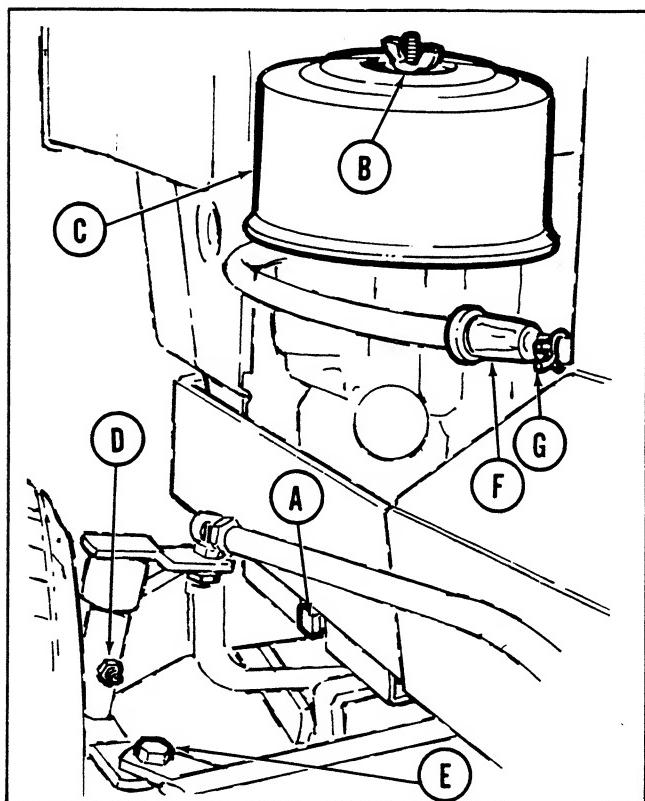

Figure 20. Left front of tractor.
2. See figure 20. Remove the drain plug (A) from the bottom of the engine base and allow the oil to drain.
1. See figure 20. Remove the wing nut (B) and cover (C) from the air cleaner unit.
5. See figure 20. Replace the air cleaner cover (C) and fasten it securely with wing nut (B).
Left Spindle	Figure 20, Item D
Left Tie Rod End	Figure 20, Item E
1. See figure 20. Remove wing nut (B) and cover (C) from the air cleaner.
7. See figure 20. Replace cover (C) and wing nut (B) and tighten securely.
REPLACE FUEL FILTER: See figure 20. Every 100 hours or more often under dirty field conditions, the fuel filter (F) should be replaced. **CAUTION: DO NOT REMOVE THE FUEL FILTER WHEN THE ENGINE IS HOT, AS SPILLED GASOLINE MAY IGNITE. USE CARE WHEN REMOVING AND INSTALLING CLAMPS (G), NOT TO SPREAD THEM ANY MORE THAN NECESSARY AS THEY MAY TAKE A SET AND NOT HOLD THE HOSE TO THE FILTER PROPERLY.**